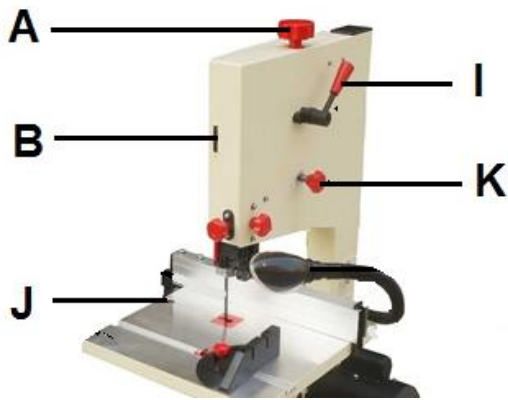

Fig 13
Remove the table slot bolt (J, Fig 13).
- Proper tracking is achieved when driver and idler wheels are aligned. Tracking knob (K, Fig 13) is used to tilt upper wheel and align blade wheels.
Blade tension is set with the blade tension knob (A, Fig 13)
To operate the machine, place the quick blade tension lever (I, Fig 13) to the up position.